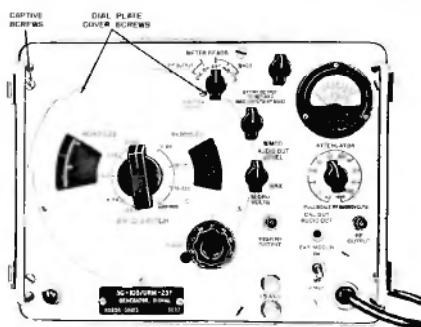

Figure 7-2. RF Signal Generator AN/URM-35F Front Panel
7. REMOVING THE SIGNAL GENERATOR FROM THE CASE. (See figure 7-2.)
(1) Loosen the six captive screws located around the outer edge of the panel. See figure 7-2.
(2) Gently pull the signal generator chassis about eight inches from the cabinet, using the lifting handles provided on the front panel. The generator unit cannot be completely removed since the interconnecting power cable is still connected to the power supply.
(3) Remove the power supply cable by pulling the power plug out of the power supply socket on the power supply sub-chassis. The generator may now be